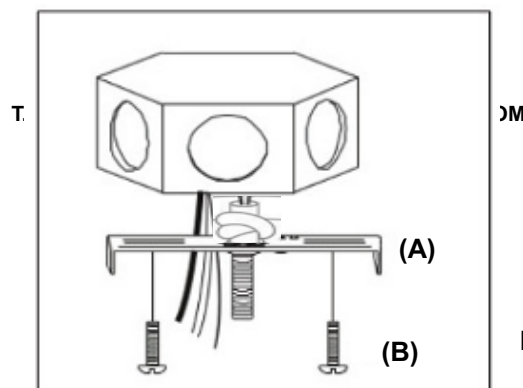

Fig 4
- 4) Secure the cross-bar (A) to the Junction Box with the Mounting Screws (B). Tighten until snug. (Fig. 4)